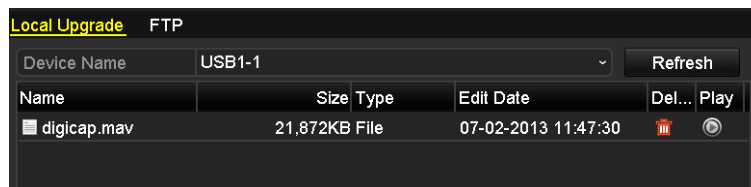

Figure 12. 7 Local Upgrade Interface
3. Click the **Local Upgrade** tab to enter the local upgrade menu, as shown in Figure 12. 7.